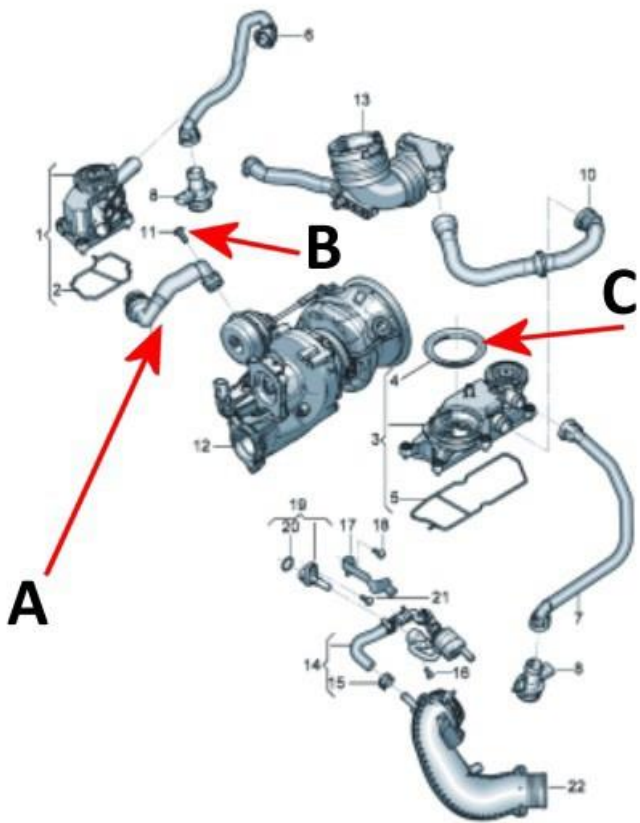

Figure 2
2) Referring to Figure 2 - Replace the Bank 1 breather line (Point A) and fixing (Point B) – Refer to applicable sections from Rep.Gr 10 - Oil mist separator bank 1 - To remove and fit